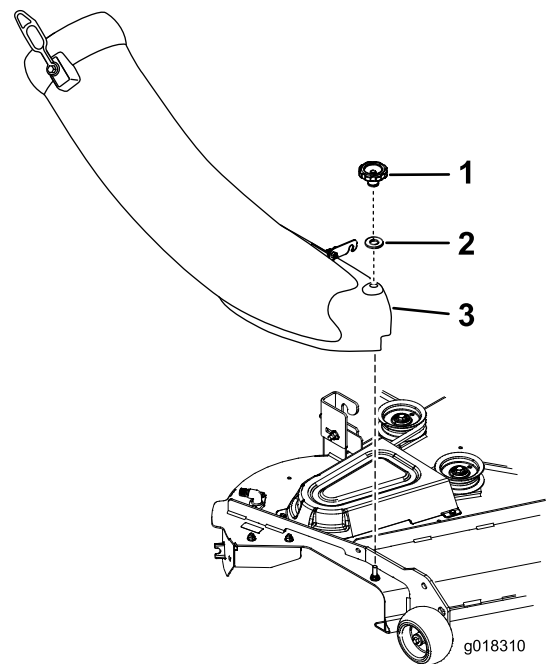

Figure 21
4. Align the hole in the chute and install it onto the bolt. Secure the chute to the mower deck with the knob and flat washer (5/16 inch) (Figure 21).